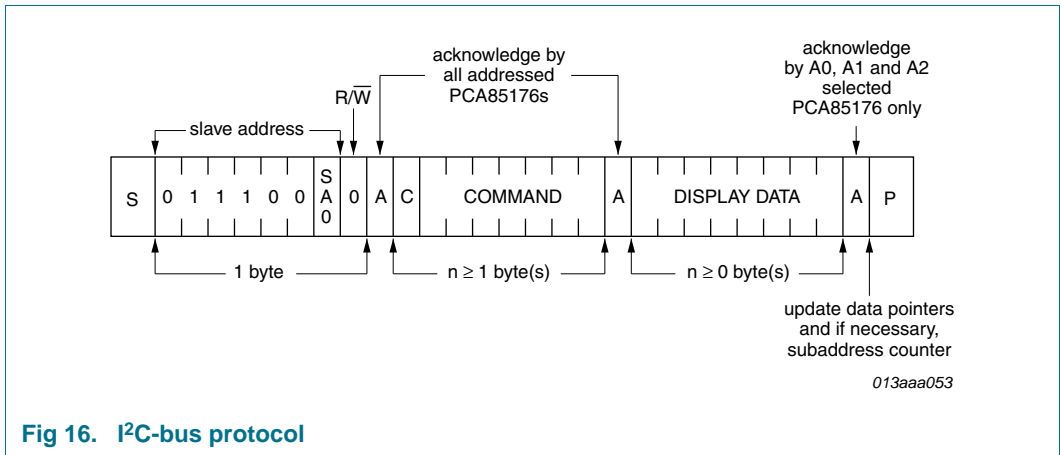

Fig 16. I²C-bus protocol
The I²C-bus protocol is shown in Figure 16. The sequence is initiated with a START condition (S) from the I²C-bus master which is followed by one of two possible PCF85176 slave addresses available. All PCF85176 whose SA0 inputs correspond to bit 0 of the slave address respond by asserting an acknowledge in parallel. This I²C-bus transfer is ignored by all PCF85176 whose SA0 inputs are set to the alternative level.